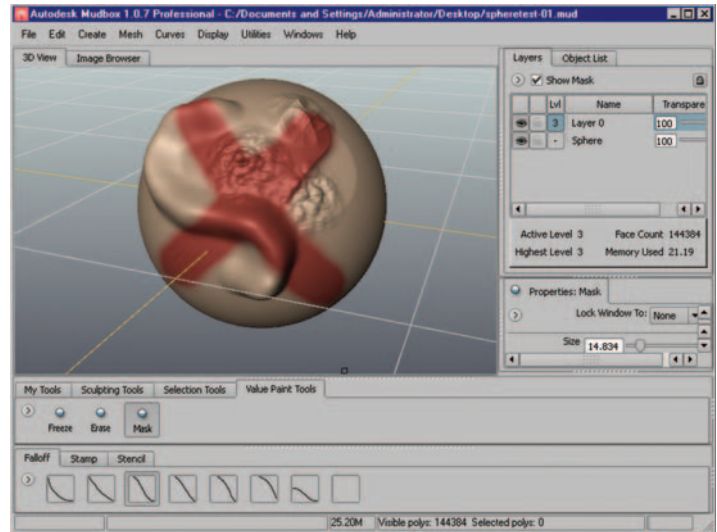

Figure 11.34 Mesh with a mask painted on it.
10. Click on the new layer in the Layer Manager. With the Mask brush selected, paint a mask onto the sphere mesh. Figure 11.34 shows the mesh with a mask painted on it. The mask is shown in red by default.